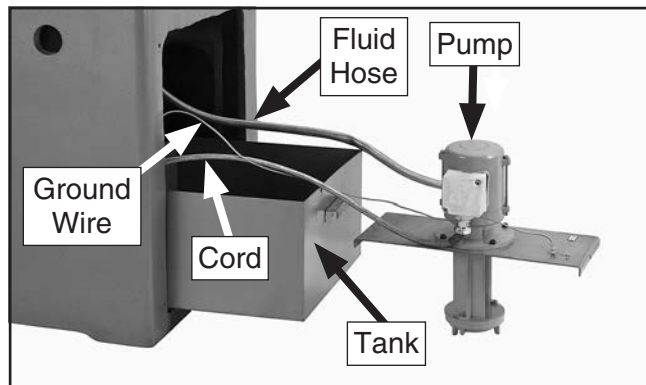

Figure 128. Typical coolant tank and pump.
2. Remove access cover from side of right stand, then slide tank out, as shown in **Figure 128**.
Note: *The fluid hose, pump cord, and ground wire (see **Figure 128**) were left long so the tank can be removed and emptied without disconnection from the tank. However, the drain tube (see **Figure 127** on **Page 71**) may come out of the tank when you empty it.*